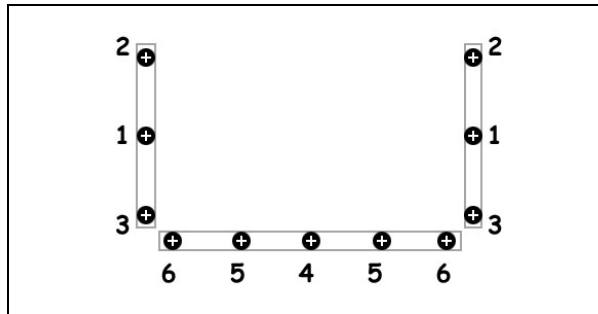

FIGURE 74 : CORRECT TIGHTENING SEQUENCE
6. While a helper is pressing on the window from outside, install the awning window clamping frame and tighten screws according to the sequence shown in FIGURE 74.